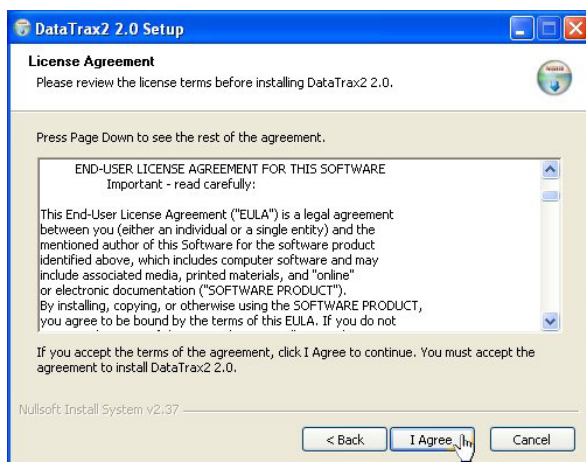

Fig. 20—License Agreement
- Click the **Next** button. Then, the **License Agreement** appears (Fig. 20).